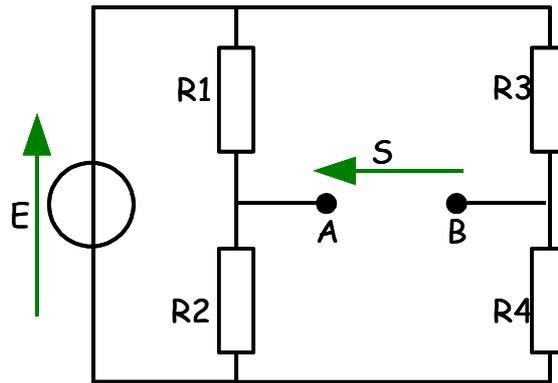

Figure 7.9 : The Wheatstone Bridge installation
3. The Resistance  $R_1$  is now installed in a Wheatstone bridge (see Figure 7.9). Resistances  $R_2$  and  $R_4$  are equal; the value of each of them is  $10 \text{ K}\Omega$ .